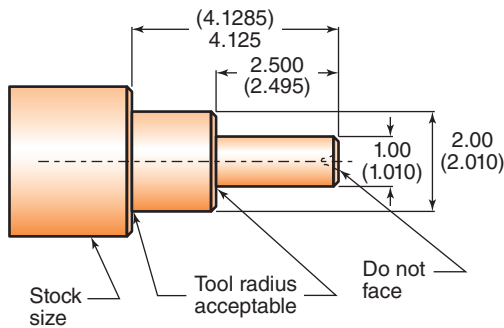

Figure 20-35 Problem 1.
1. You are operating the CNC turning center on a first part run. After measuring four dimensions, you see a need for offsetting two tools. In Fig. 20-35, the actual measured results are shown in brackets. T01 cuts the 1.00- and 2.000-in. diameters and faces between them but does not face the end of the work. T02 cuts the larger face out to the dimensional limits of the stock size. Using Fig. 20-36 as a guide, enter your calculated offsets, a simulated tool memory page. Notice in Fig. 20-36 that since this is a first